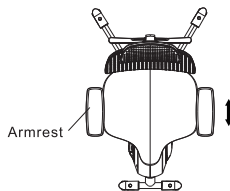

Figure 3
3. Left and right direction adjustment: turn in the direction shown by the arrow in Figure 3, you can adjust the angle of the armrest left and right.
Front and rear direction adjustment : push in the direction shown by the arrow in Figure 3, you can adjust the position of the armrest forward and backward.